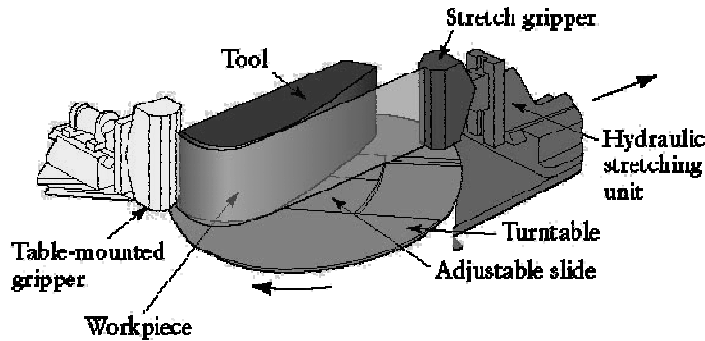

Fig.2 Schematic illustration of a stretch-forming process.
- **Stretching:** forming process causes the sheet metal to undergo the desired shape change by stretching without failure. Ref fig.2